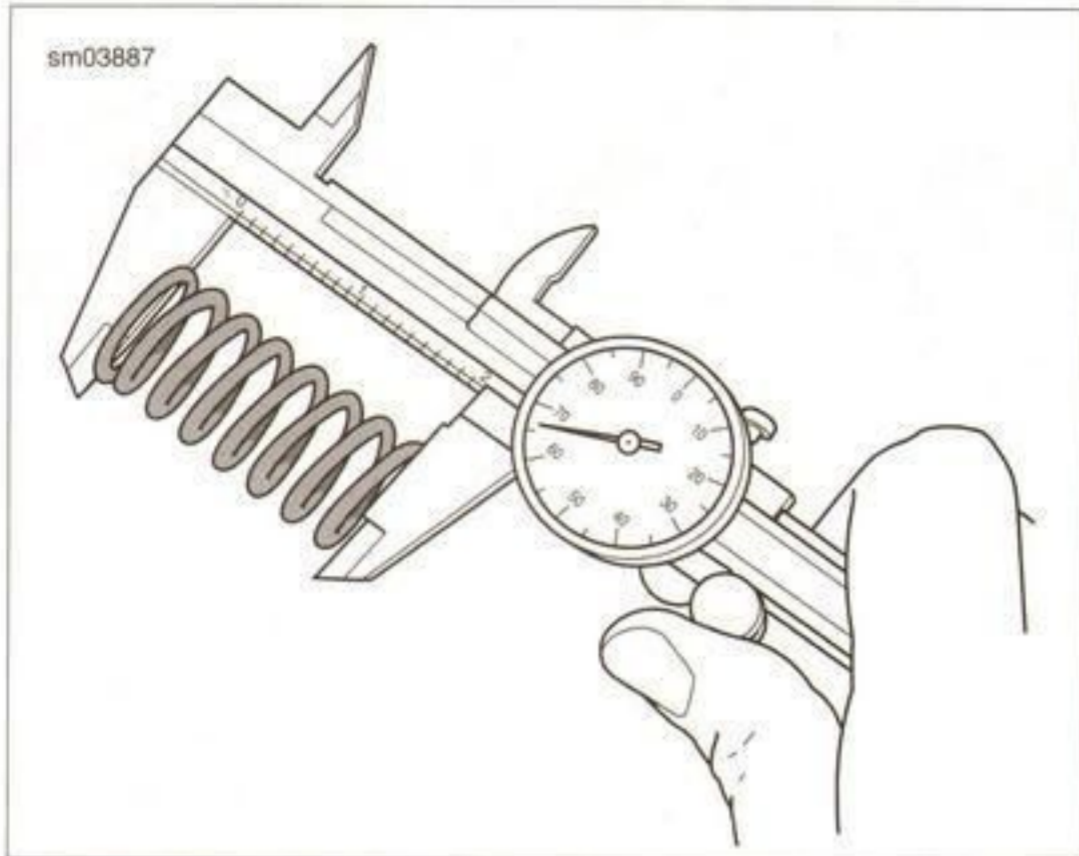

Figure 6-41. Measure Clutch Spring Free Length
1. See Figure 6-41. Measure the free length of the clutch springs. If any one free length is less than specification, replace the set (6) of springs. Refer to Table 6-9.